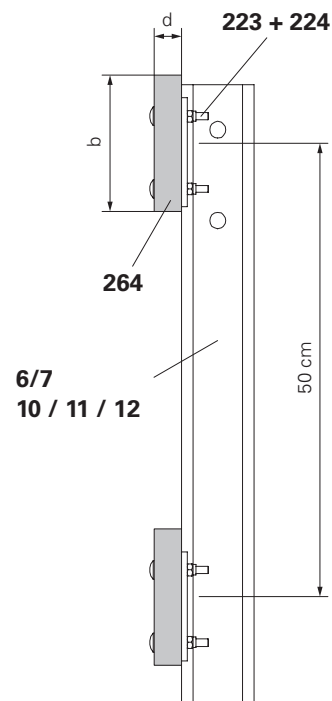

Fig. B2.13
1. Align guardrail boards (264) on the inside of the guardrail posts (12).
3. Screw tight with F.H. bolt DIN 603 M8 x 50 (223) and nut M8 (224).
- (Fig. B2.13)